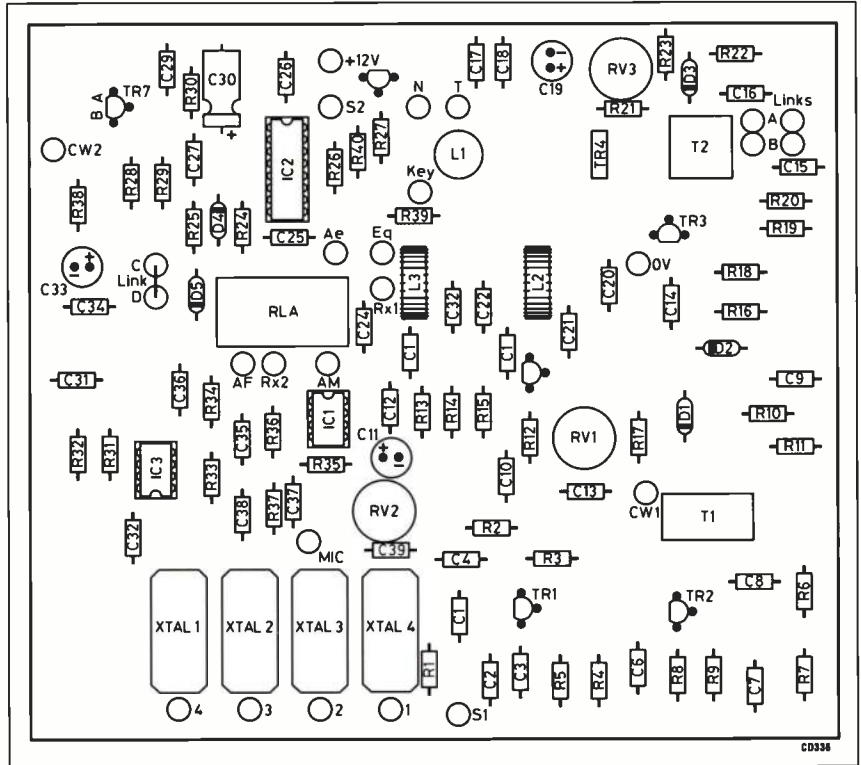

Fig 7.3. Layout of the components on the PCB
The work has been arranged in a series of stages; each completes a part of the project which can be tested to check that it is working correctly. Fig 7.3 shows the position of the components on the PCB. This must be referred to continually to ensure that the components are inserted in the correct place. If you are using a commercial PCB there is probably a component indication on the component side. It is most important that constructors with little or no experience should not proceed to the next stage until satisfactory results are obtained from the tests on the section just completed. By following this method it will be much easier to see where a fault (if any) has occurred during the last few steps of the construction work.
2. Insert the 25 pins in the positions indicated by a circle in the component layout diagram (see Fig 7.3). Methods of inserting pins are described in Appendix 1. The pins must be pushed down to the copper and then soldered using a medium-size bit (2 to 2.5mm) in the iron.
at the end of the IC and on the layout diagram (Fig 7.3).